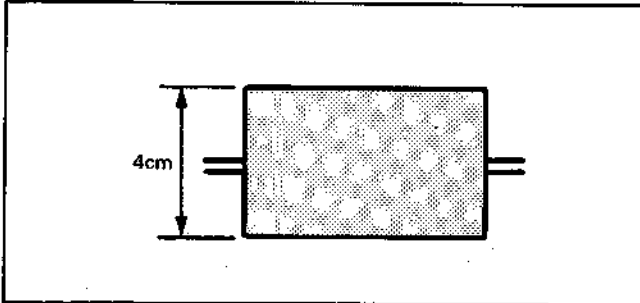

Fig. 1-11 No. 2 Guide Waveform
- 4) Turn No. 2 guide adjustment nut clockwise so that the RF output waveform entrance side is 4cm as shown in Fig. 1-11.